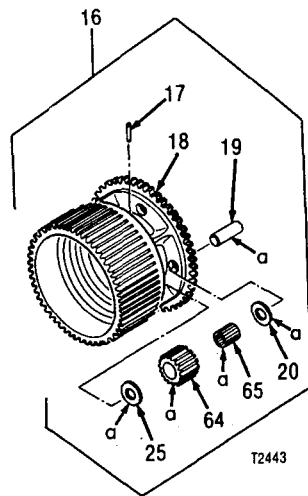

Figure 376.1. Addendum to Figure 376 (fold-out 5)
- 64- Add Pinion assembly (matched set of 4) (later models) (see fig. 376.1)
- 65- Add Roller bearing assembly (4) (later models) (see fig. 376.1)